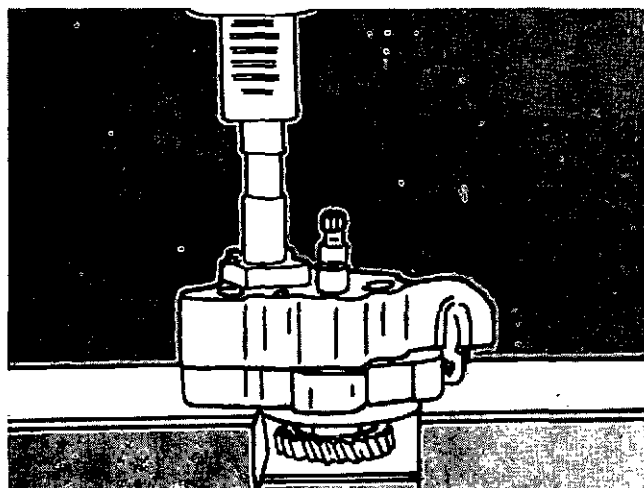

Fig. 7-11. Install The Assembly.
- e. Install the small diameter end of the mandrel into the locating plate. Push on the mandrel with an arbor press until the large end of the mandrel is against the locating plate, Fig. 7-11.